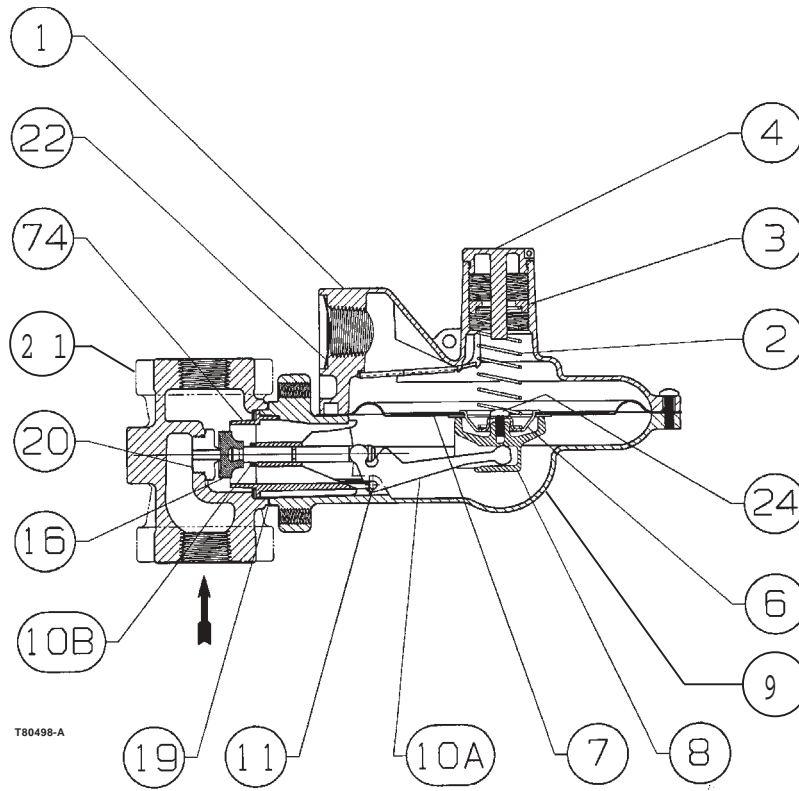
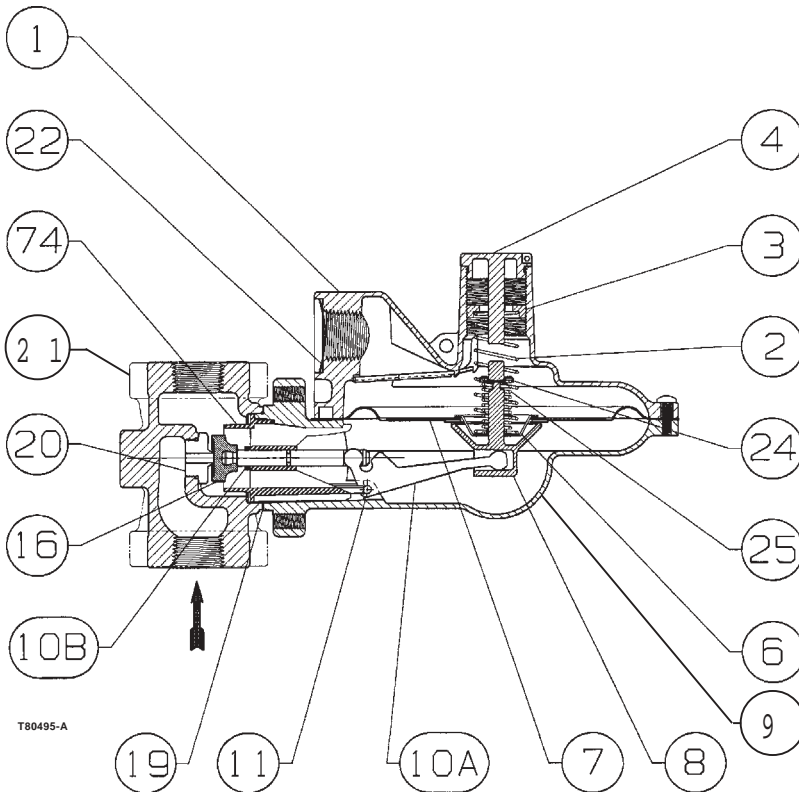

Figure 4. Type S100K Regulator Assembly
Figure 5. Type S102K Regulator Assembly
To increase the outlet pressure setting of the regulator, the adjusting screw (key 3, figures 4 & 5) must be turned clockwise. This requires removal of the closing cap (key 4, figures 4 & 5). To reduce the outlet pressure setting, turn the adjusting screw counterclockwise. A pressure gauge should always be used to monitor downstream pressure while adjustments are being made. Do not adjust the spring to produce an outlet pressure setting above the limit stamped on the closing cap. If the required pressure setting is not
While using the following procedures, refer to figures 4 and 5 for key number locations, unless otherwise directed.
1. Remove the closing cap (key 4) and adjusting screw (key 3).
2. Remove the spring case machine screws (key 14, not shown) out of the spring case (key 1), and remove the spring case and control spring (key 2).
3. Lift the diaphragm slightly, and slide it away from the lever (key 10A), so that the pusher post (key 8) releases the lever.
4. On the Type S100K, remove the screw (key 12, figure 4). On the Type S102K, remove the spring retainer (key 24, figure 5), then remove the relief spring (key 25, figure 5).
5. Remove the diaphragm (key 7). Examine the diaphragm and replace with a new diaphragm if necessary.
6. Reassemble in the reverse order of the above procedures. Before attaching the screw (key 12, figure 4) on the Type S100K, or spring retainer (key 24, figure 5)
on the Type S102K, to the pusher post (key 8, figures 4 and 5) to secure the new diaphragm, place the loosely assembled diaphragm into position in the lower casing (key 9, figures 4 and 5), being sure the pusher post is properly hooked on the lever (key 10A, figures 4 and 5). Rotate the diaphragm so that the diaphragm and lower casing holes align. Tighten the screw (key 12, figure 4) or install the spring retainer (key 24, figure 5) and proceed with reassembly. Tighten the spring case cap screws (key 14) to 15 to 25 inch-pounds (1,7 to 2,8 N•m).